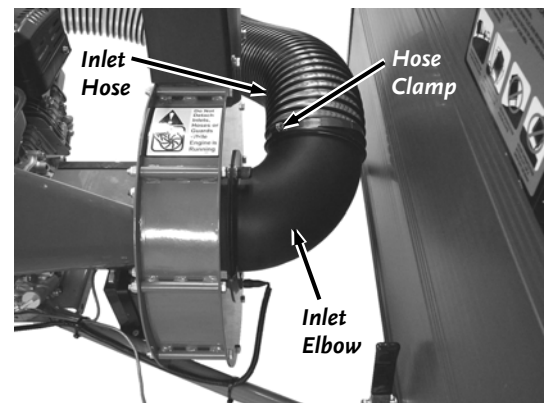

Figure 22
- a. Loosen the Hose Clamp that secures the inlet Hose to the Inlet Elbow with a 5/16" Wrench and pull the Hose from the Elbow (**Figure 22**).